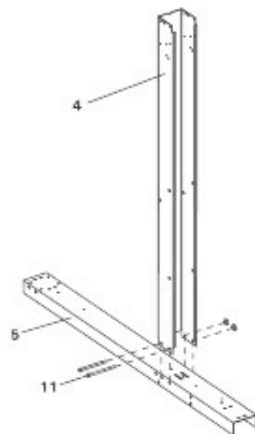

Fig. 8
B) Now take the straight side 4"x4" Upright and push it down over the strap end channel where those slots are located. Position the open end of the straight side upright to face the short end of the channel (the inside of the pool) as shown in Fig.8. The two holes on each side of the upright should line up with two of the holes on each side of the strap end channel. Secure the parts with two 5/16" x 5" bolts and two 5/16" nuts. Repeat for all assemblies.